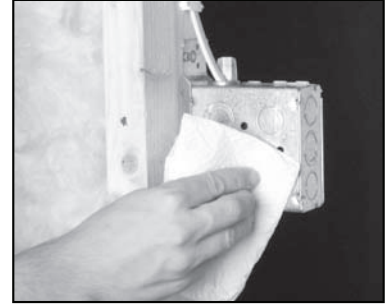

Figure 2.1
2. Remove any water, excess dust, dirt or oil from the application. (Fig 2.1)